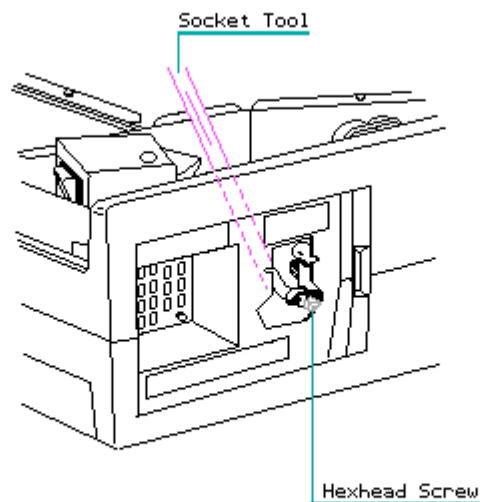

Figure 7.8-8. Removing the Hexhead Screw
4. Using the two piece socket tool and the socket or a 5/16 inch box end wrench, unscrew the spring loaded hexhead screw that is on the lower corner of the power supply assembly (Figure 7.8-8).